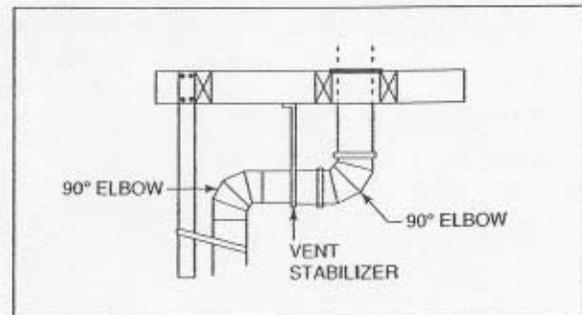

Figure 11 Elbows with Stabilizer
2. Preparing the ceiling. Drop a plumb bob down from the ceiling to the position of the appliance flue exit, and mark the location where the vent will penetrate the ceiling. Drill a small hole at this point. Next, drop a plumb bob from the roof to the hole previously drilled in the ceiling, and mark the spot where the vent will penetrate the roof. Determine if ceiling joists, roof rafters, or other framing will obstruct the venting system. You may wish to relocate the appliance, or to offset, as shown in Figure 11, to avoid cutting loadbearing members.
To bypass any overhead obstructions, the vent system may be offset using a 45 degree elbow or a 90 degree elbow. Vent stabilizers have straps for securing these parts to joists or rafters. Plumbers tape may be purchased locally and used in conjunction with vent stabilizers. See Figure 11.